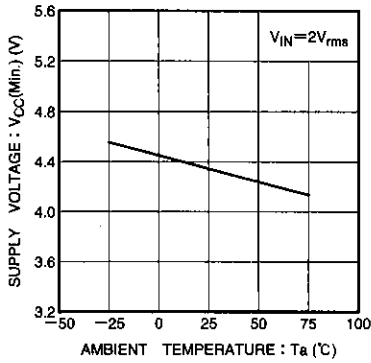

Fig. 6 16th point lighting limit supply voltage vs. ambient temperature
- 2) The temperature characteristic for the lighting limit for the 16th LED is shown in Fig. 6.